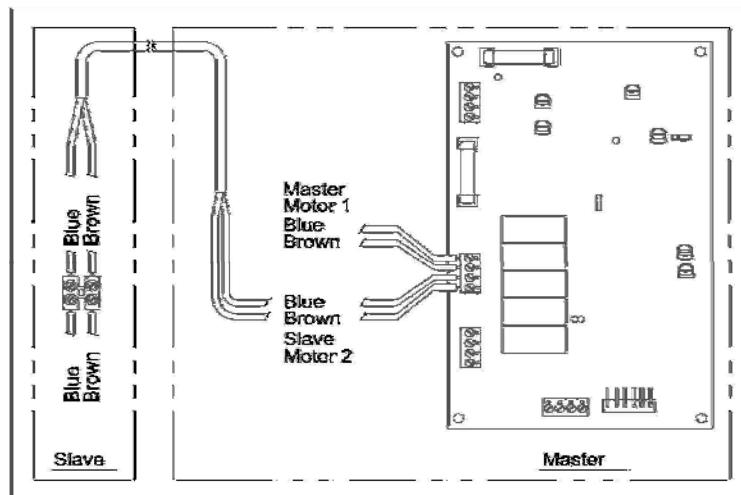

Figure 3: Master-slave connections.
- If you have a pair of gates then connect the slave to the Master Unit with 2 core Flex/Cable (Max load 8 Amp at 12 Volts) (See Figure 3). The LI-2B operators are set in the factory for a "Standard Installation" with the Master placed on the LEFT HAND SIDE (From the inside looking out). If the Master has to be located on the right then the motor wires need to be reversed. To accomplish this, locate the connection blocks for each motor on the Circuit Board. Swap the BROWN and BLUE wires for Motor 1 and Motor 2 (See Figure 3)